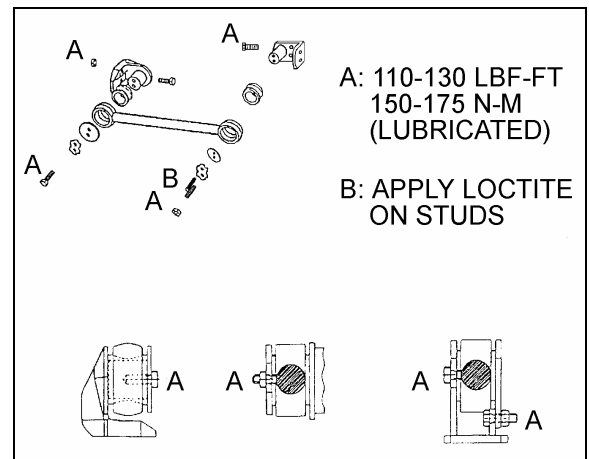

FIGURE 9: RADIUS ROD INSTALLATION
1. Lightly spray the radius rod support with water. Place the radius rod end over the radius rod support (Fig. 9).